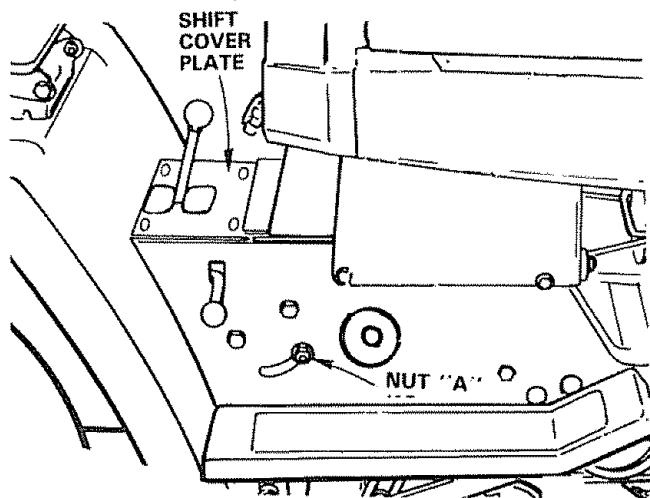

FIGURE 35
- Loosen nut "A" on R.H. outside of frame (Fig. 35).
- h. Tighten nut "A" on R.H. outside of frame (Fig 35)
- a. To tighten belt, remove (4) hex washer head tapping screws from shift cover plate (Fig. 35) located on top of tractor frame. Remove the cover plate.
- c. Loosen nut "A" located on outside of R.H. chassis frame (Fig. 35), slide take-up idler down approximately 1/2" and tighten nut "A".